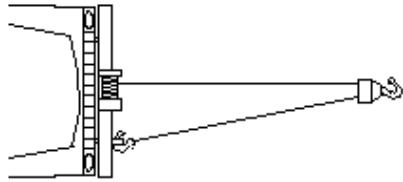

Fig.1
2. Never overload. Be sure all equipment used meets the winch's maximum line pull rating. We recommend using the pulley block optional supplied to double line the wire rope. (See Fig. 1) Double line with a pulley block to reduce the load on the winch, wire rope and battery. When double-lining, pulley blocks should be rated to a minimum of two times the winch's line pull rating.